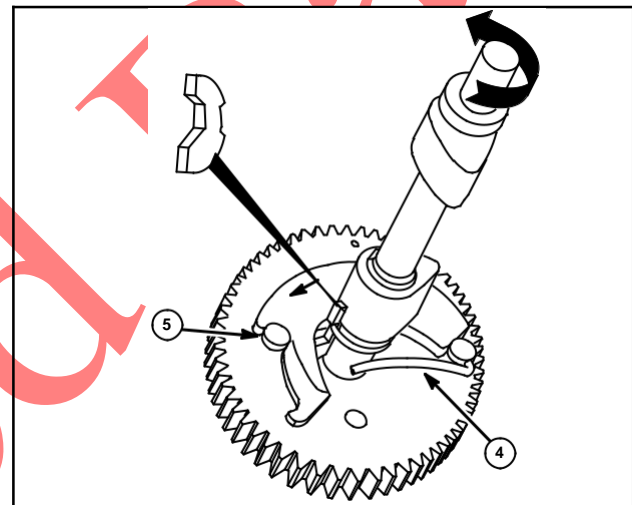

Fig. 10
3. Release the actuator cam. Actuator cam spring (4) should pull actuator cam against the shoulder pin (5), causing rocker cam to raise up to starting position, Fig. 10.